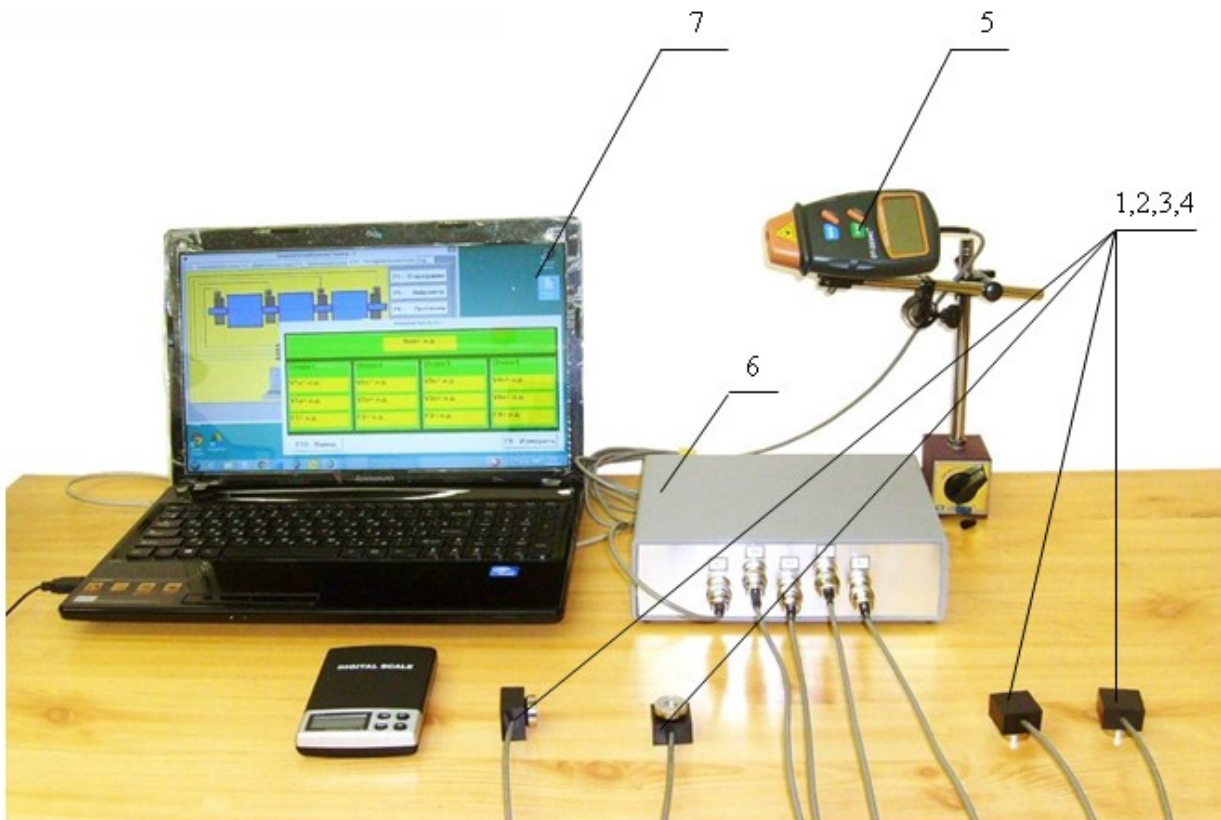

Fig. 4.1. Delivery set of the balancing set “Balanset-4”
4.1. Photos of the balancing set “Balanset-4” are shown in fig. 4.1 и 4.2.
Balancing set (fig. 4.1) consists of USB interface unit 6, four sensors of vibration 1, 2, 3, 4, phase sensor 5 and portable computer 7.